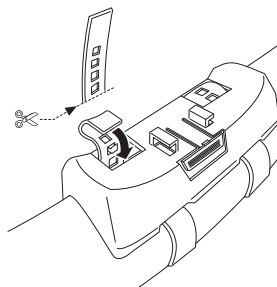

Fig. 17
3. Cut off the extra portion of the belt. (Fig. 17)